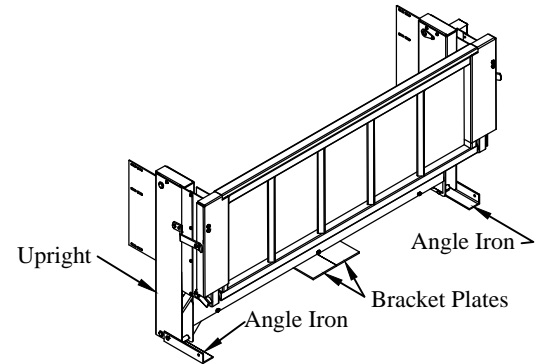

Figure 2: Complete liftgate (G2 shown).
4. **Unbolt** the two (2) angle irons attached to the liftgate uprights (Figure 2).
5. **Remove** the two (2) bracket plates attached to the liftgate (Figure 2).